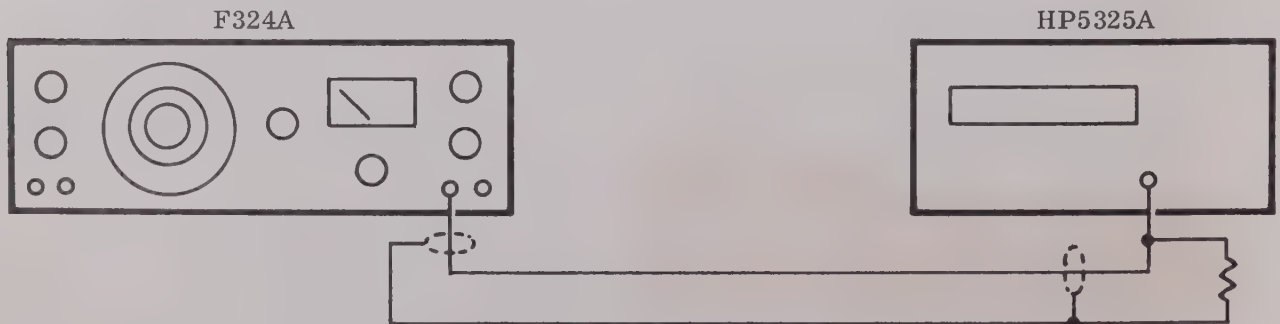

FIGURE 5-6
a. Interconnect equipment as shown in Figure 5-6, observing signal and ground connections carefully. Terminate the output in a 50Ω load at the input to the counter.